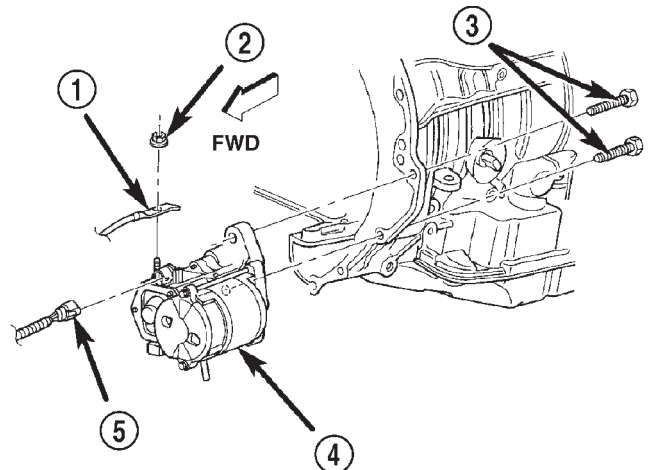

Fig. 14 Starter Motor Remove/Install - 4.7L Engine with Automatic Transmission
(1) Disconnect and isolate the battery negative cable.
(2) Raise and support the vehicle.
(3) Remove the screw and washer (rearward facing) that secures the lower mounting flange of the starter motor to the automatic transmission torque converter housing (Fig. 14).
(4) While supporting the starter motor with one hand, use the other hand to remove the screw and washer (rearward facing) that secures the upper mounting flange of the starter motor to the automatic transmission torque converter housing.
(5) Lower the starter motor from the front of the automatic transmission torque converter housing far enough to access and remove the nut that secures the battery positive cable eyelet terminal to the starter solenoid B(+) terminal stud. Always support the starter motor during this process. Do not let the starter motor hang from the wire harness.
(6) Remove the battery positive cable eyelet terminal from the solenoid B(+) terminal stud. Always support the starter motor during this process. Do not let the starter motor hang from the wire harness.
(7) Disconnect the battery positive cable solenoid terminal wire harness connector from the connector receptacle on the starter solenoid. Always support the starter motor during this process. Do not let the starter motor hang from the wire harness.
(8) Remove the starter motor from the automatic transmission torque converter housing.